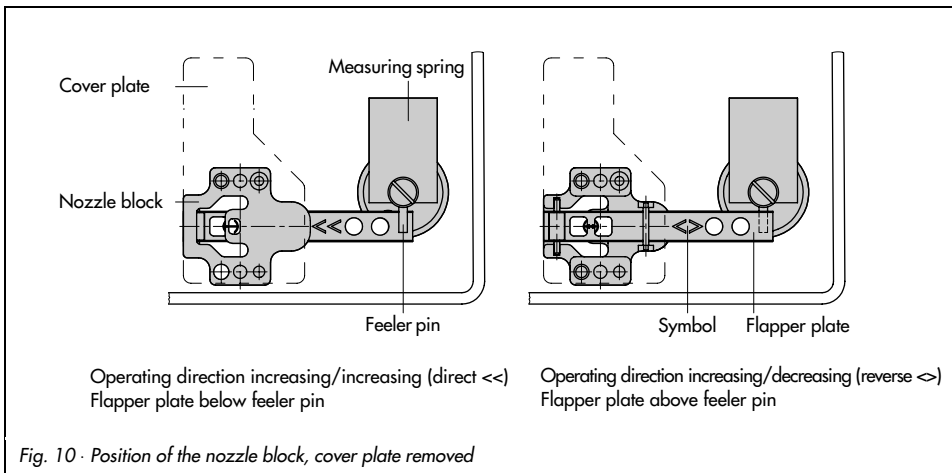

Fig. 10 · Position of the nozzle block, cover plate removed
1. Remove both screws on the cover plate, and lift off the nozzle block (10) including the cover plate.
2. Reposition nozzle block turned 180° together with the cover plate, and screw tight. Always make sure that the nozzle block and flapper plate are positioned in accordance with the feeler pin (9.1) as depicted in Fig. 10.